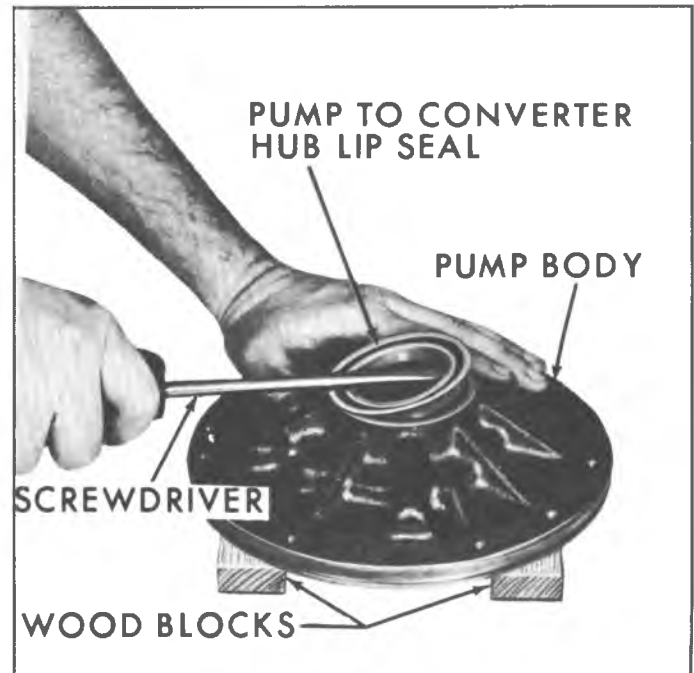

Fig. 57N--Removing Pump to Converter Hub Lip Seal
1. Replace hub lip seal if defective (figs. 57N and 58N).